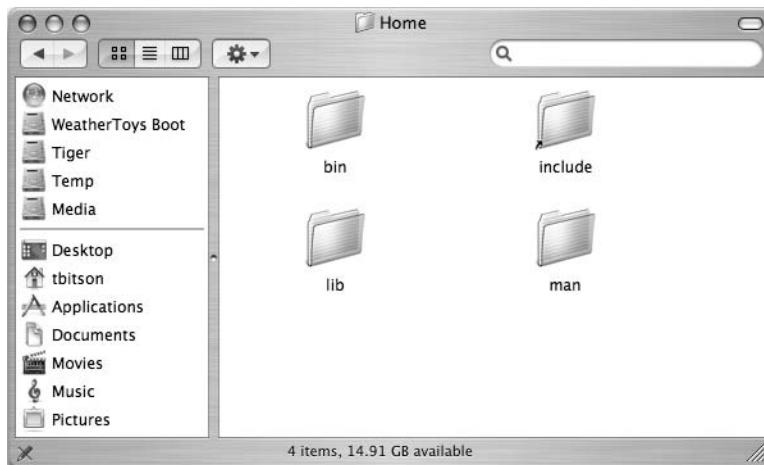

FIGURE 4-2: Mac OS X Java Home directory.
4. Finally, open the Home folder. You'll see something similar to what is shown in Figure 4-2. Don't worry if yours isn't exactly the same because you still have to add a few files. For now, just remember this is your Java Home directory.